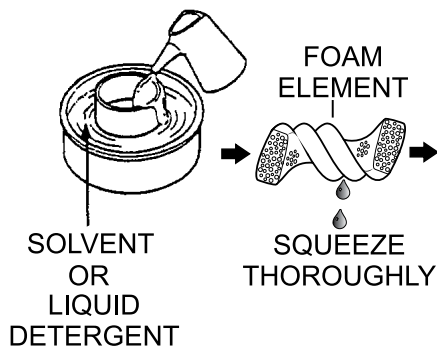

Figure 29. Cleaning Foam Element
8. Clean the foam air filter (Figure 29) element in warm soapy water, rinse and allow to dry thoroughly or clean with a nonflammable solvent and allow to dry. **DO NOT** pour any type of oil into the foam element.